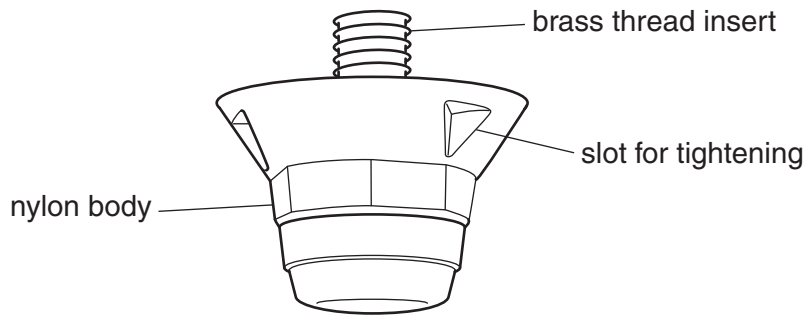

Fig. 3
- 2 Boots with screw-in studs are worn for some sports. Fig. 3 shows details of a stud.
Give **two** quality control checks for the stud shown in Fig. 3.